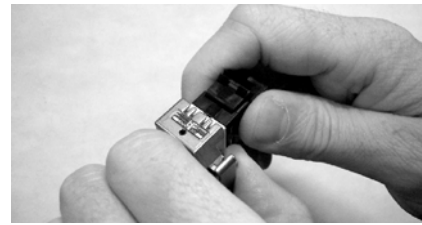

Figure 12
- b. Slightly move (wiggle) the connector back and forth while pulling in opposite directions. See Figure 12.